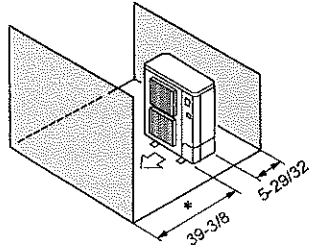

Fig. 3-9
- ⑥ Obstacles at front and rear only (Fig. 3-9)